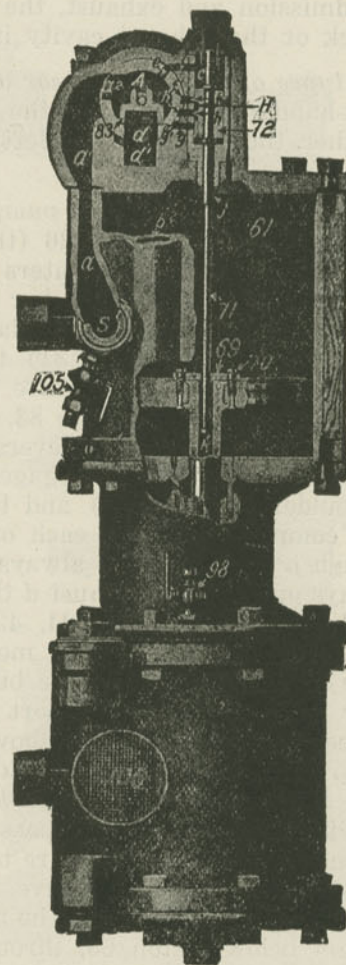
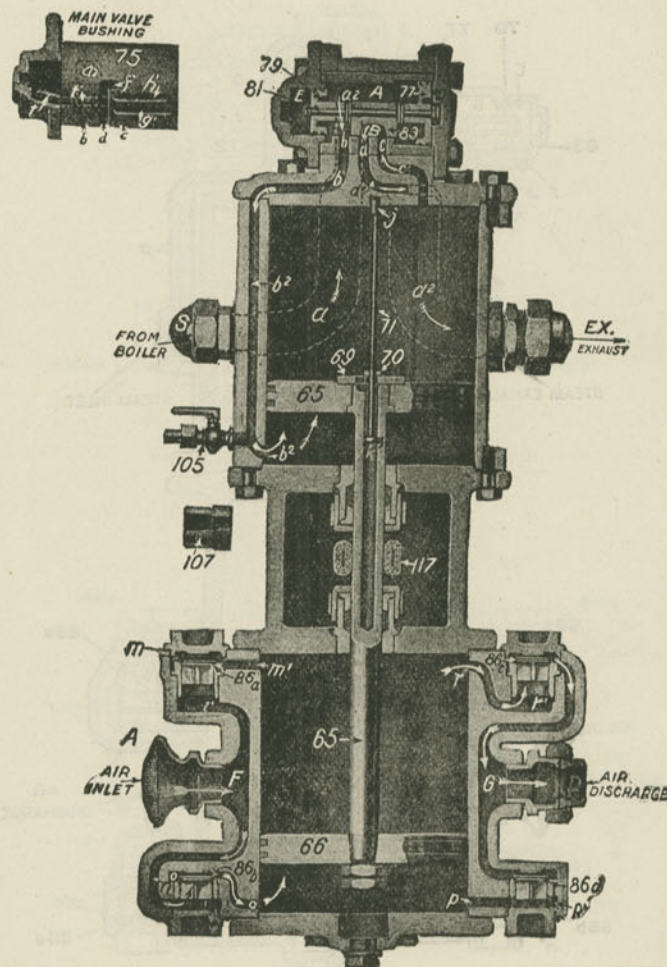

Fig. 423. Section of Compressor Through Reversing Valve.
Fig. 424. Section of Compressor Through Main Valve.
A. There is an air cylinder, Fig. 423, surmounted by a double-acting steam cylinder, supplied from the boiler,
A. As in Figs. 423, 424, 425 and 426 (the two latter being merely diagrammatical) steam enters at the steam inlet, passing through *a*, *a*1 to the chamber *A*, above the main valve 83 and between the unequal diametered pistons 77 and 79 (connected by stem 81) through *e* to chamber *C*, containing the reversing valve 72, that controls these pistons and the main valve 83, and is itself worked by the rod 71, struck by the reversing plate 69 on the main piston 65. This plate engages alternately the reversing shoulder *j* (Fig. 424) and the button *k*. *A* and *C* always communicate with each other and the steam inlet through *a*1 and *e*; hence always contain live steam. *E* is always open to the exhaust *d* through *t* and *t*1 (see main valve bushing, Figs. 424, 425, 426). A balancing port *s* (Figs. 423, 425, 426) meets a groove down the outside of the reversing-valve bush, where it enters the upper cylinder through a port in the head. Its object is to keep the same pressure above the reversing rod as below. When valve 72 is in lower position (Figs. 423, 425), *D* is connected (through *h*, *h*1, *H* [Fig. 423], *f* and *f*1) with the main exhaust passage *d*, *d*1, *d*2; so that there is only atmospheric pressure to right of 77. The latter has pulled 79 and main valve 83 with it to position shown in Figs. 424 and 425. The main valve 83 then admits steam below piston 65, through *b*, *b*1, *b*2, raising it and causing exhaust through *c*1, *c*, *B*, *d*, *d*1, *d*2, to the connection *Ex*; thence to the outer air. At top stroke end, rod 71 reverses 72 and opens *g* (Figs. 423, 426). Steam from *C* enters *D* through bushing ports
*A. As seen in Figs. 423, 424, 425 and 426, its piston is actuated by that of the steam end. On the up-stroke,*